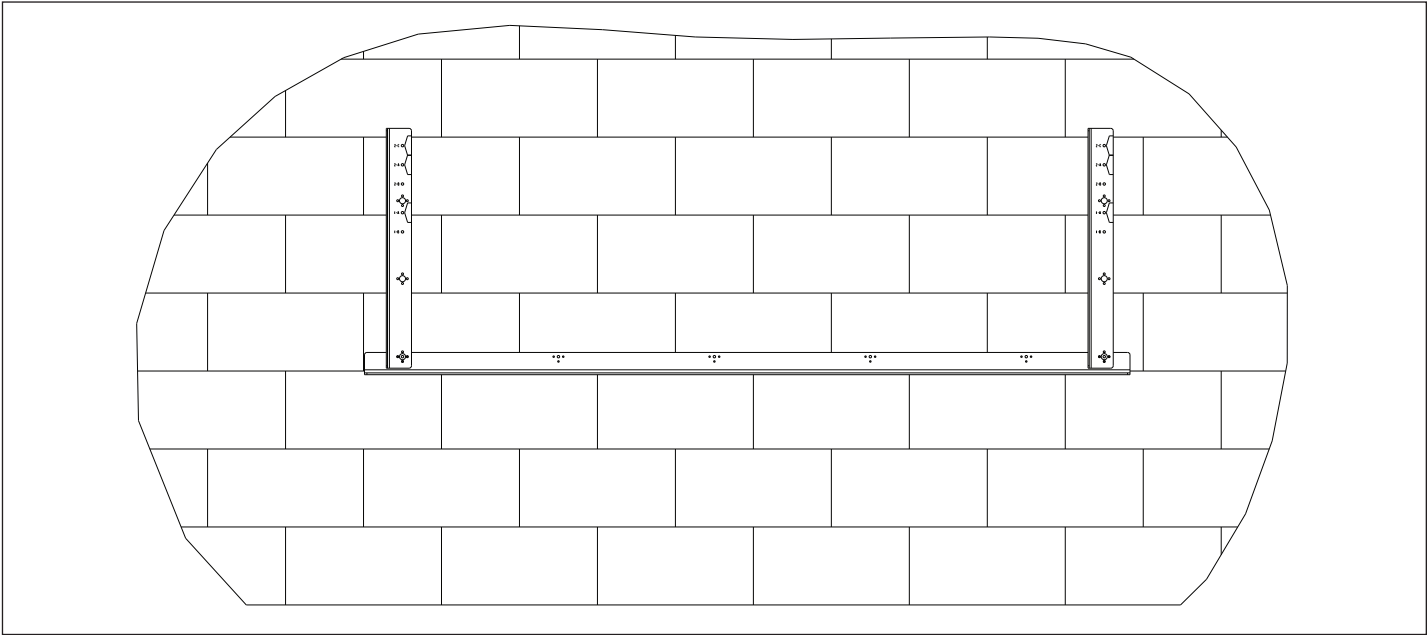

Figure 4: Install Second Row Horizontal Wall Angles Vertically
4. Install the second row horizontal wall angles vertically while referring to **Figure 4**: